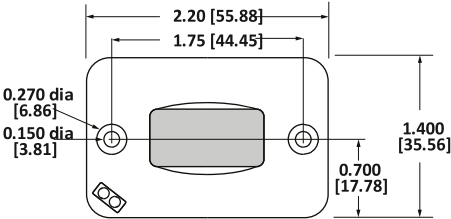

Figure 2
2. Mount the meter with screws, double sided tape, or Velcro. If using screws, use the meter to make a template for drilling holes with 7/64" drill (see Figure 2 for mechanical dimensions). **DO NOT DRILL** into **GAS TANKS** or **ENGINE CRANKCASE**. If in doubt, contact your dealer.